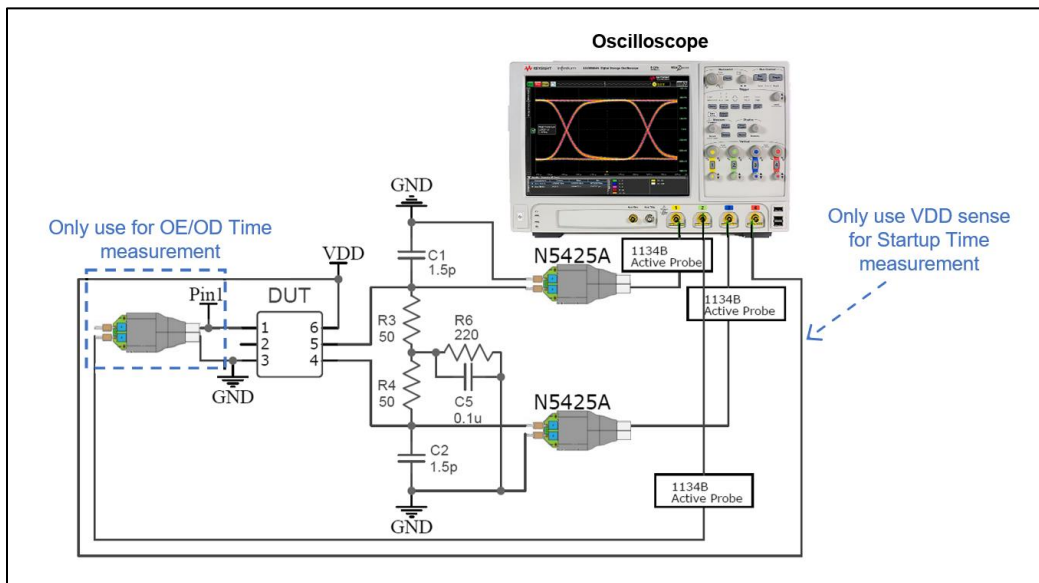

Figure 11. Test setup to measure FlexSwing Waveform Characteristics, Current Consumption^[20], Output Enable/Disable Time, and Startup Time
- 17. See Figure 11 for the test setup to measure LVPECL Current Consumption with Termination 1 or without Termination.